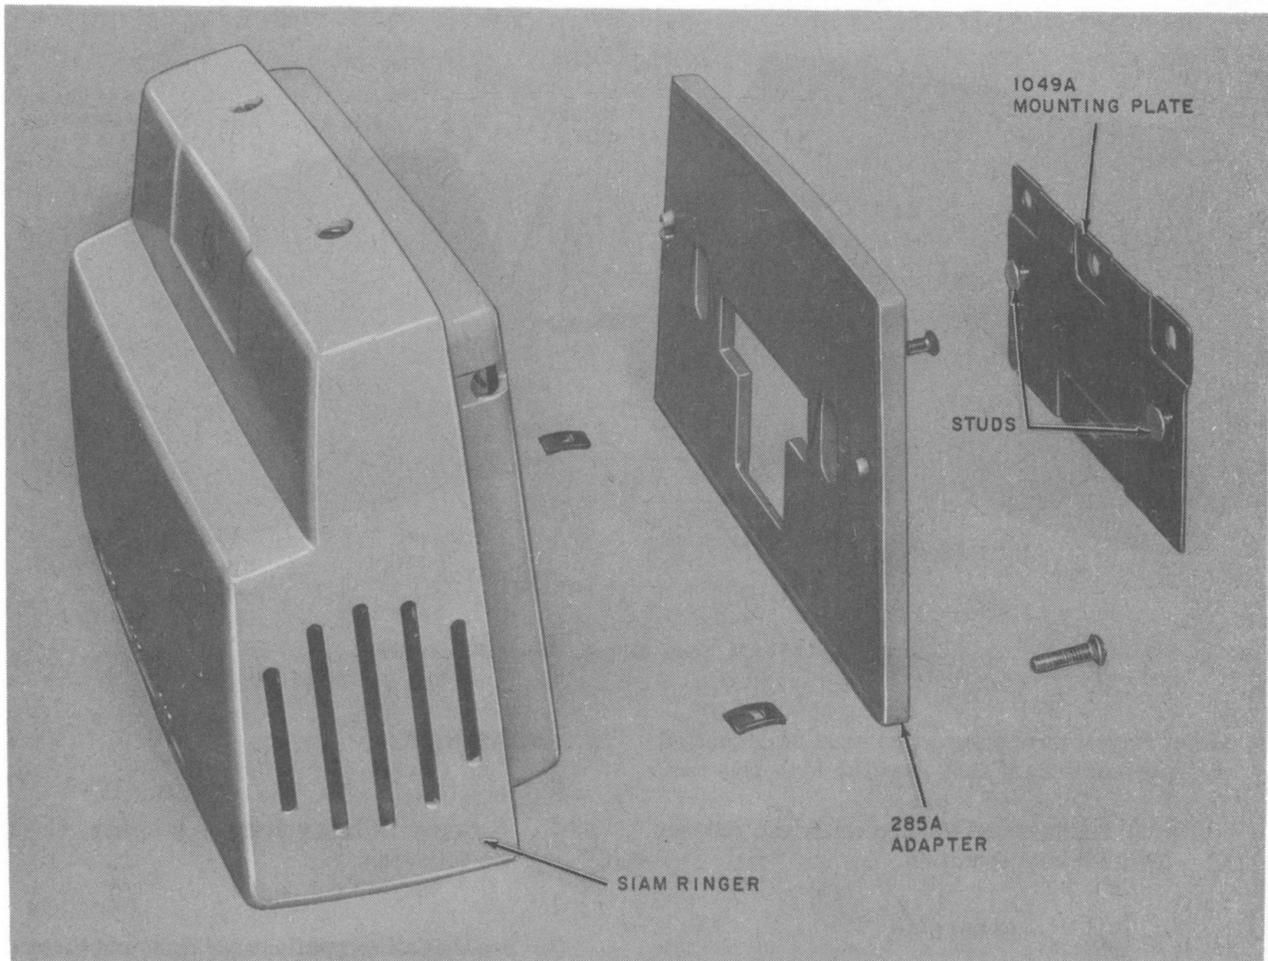

Fig. 2—S1AM Tone Ringer With Adapter and Mounting Plate
3.03 The S1AM (modular) tone ringer (Fig. 2) requires a 285A adapter and a 1049A mounting plate which must be ordered separately. Install the ringer as follows: